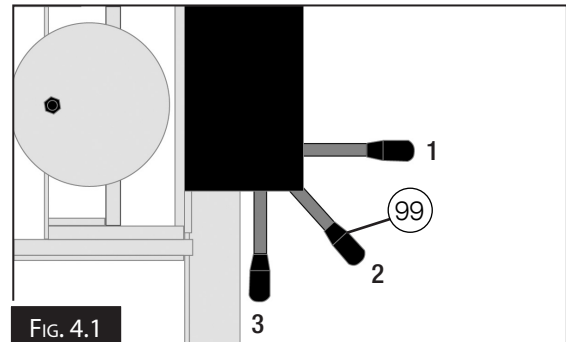

FIG. 4.1
1. Move the lever of the selector valve (#99) to position 2. (Fig. 4.1)
3. Turn the control lever (99) to position 3 (Fig. 4.1) and check if the ram is working smoothly. If the ram is working properly, the air purge is finished, if not, repeat the process.